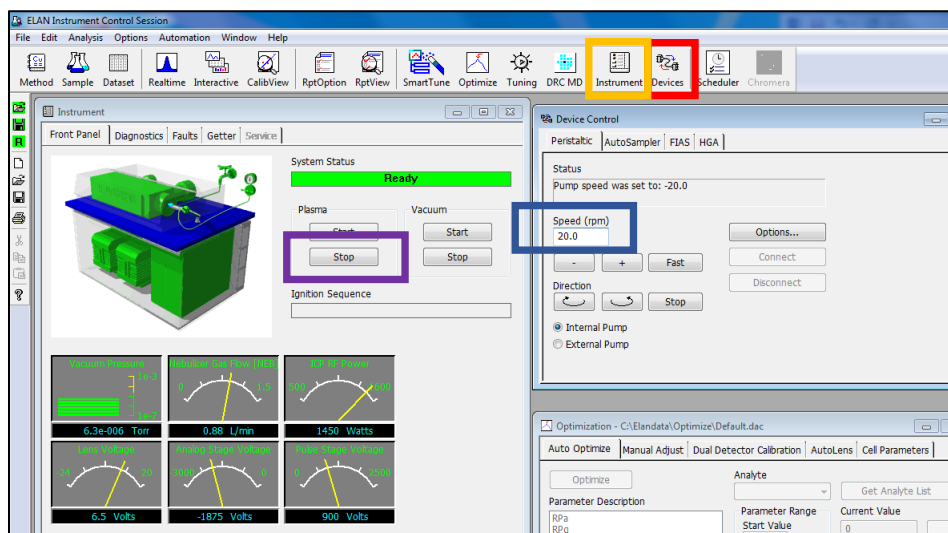

Figure 21: Termination steps.
- Select Instrument (**Figure 21**, orange rectangle), then Plasma Stop (**Figure 21**, purple rectangle).
- Select Device (**Figure 21**, red rectangle). Set Peristaltic Pump Speed to zero (**Figure 21**, blue rectangle).